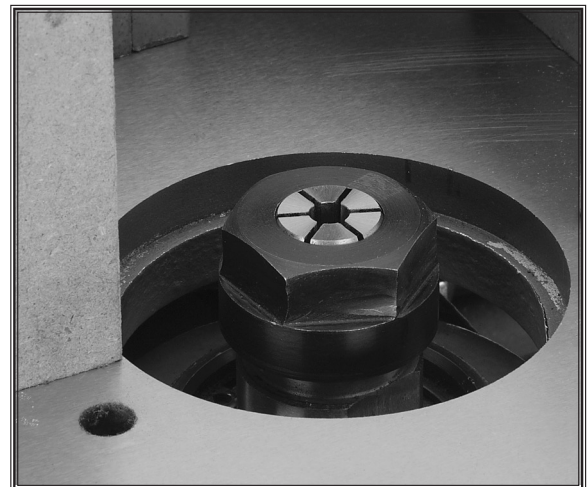

Figure 27. Installed collet flush with top of collet nut.
3. Place the collet nut and collet into the spindle. See **Figure 27**.